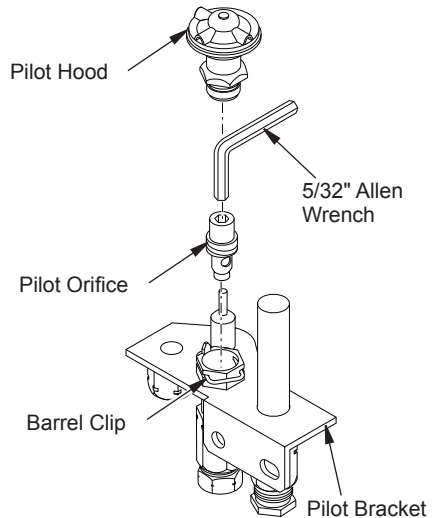

Figure 10 - Converting Pilot Orifice
- Remove pilot hood assembly by pulling up until it disengages from barrel. DO NOT remove barrel clip (see Figure 10).